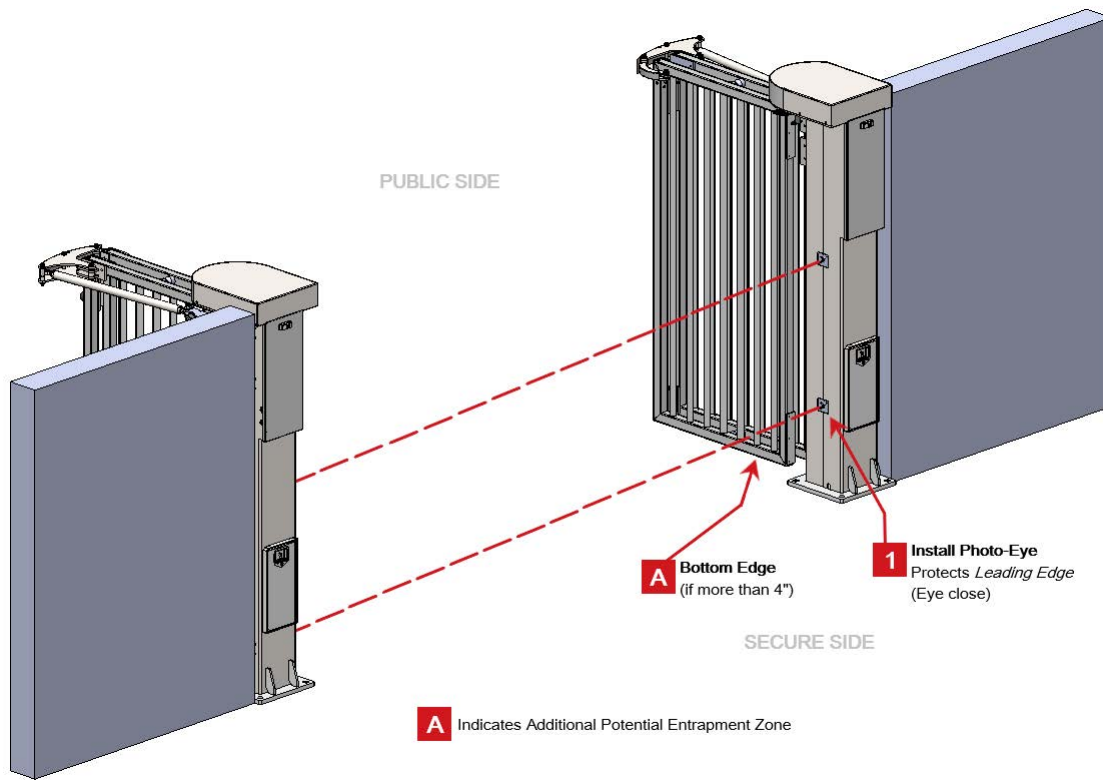

Figure 2. SpeedGate Common Entrapment Zones
**PHOTOELECTRIC EYES:** One or more photoelectric eyes shall be located where the risk of entrapment or obstruction exists, such as the perimeter reachable by a moving gate. Refer to “Figure 2. SpeedGate Common Entrapment Zones” on page 34.
See “Figure 2. SpeedGate Common Entrapment Zones” on page 34. Refer also to diagrams in “ENTRAPMENT AND PINCH POINTS” on page 39.